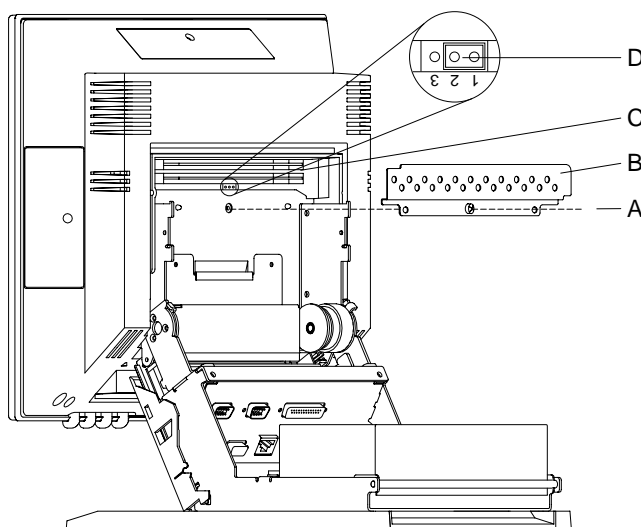

Figure 11. CMOS reset jumper JP4
1. Loosen the captive screw **A** from memory cover **B** located on the back of the display, as shown in Figure 11 and slip the cover off the two alignment pins as described in *IBM SurePOS 500 Series Hardware Service Guide* in the topic “Memory module removal and installation.”